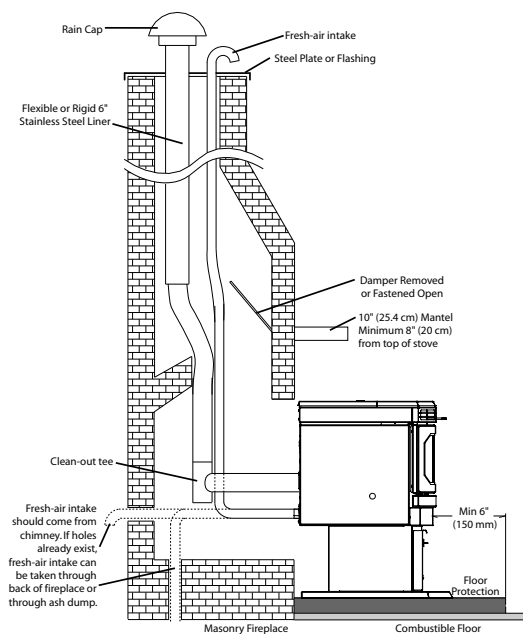

Figure 35: Freestanding hearth mount installation.
3. Using three (3) T-20 screws on each side attach the hinges on the side surround panels to the unit's side panels (refer to Figure 35).